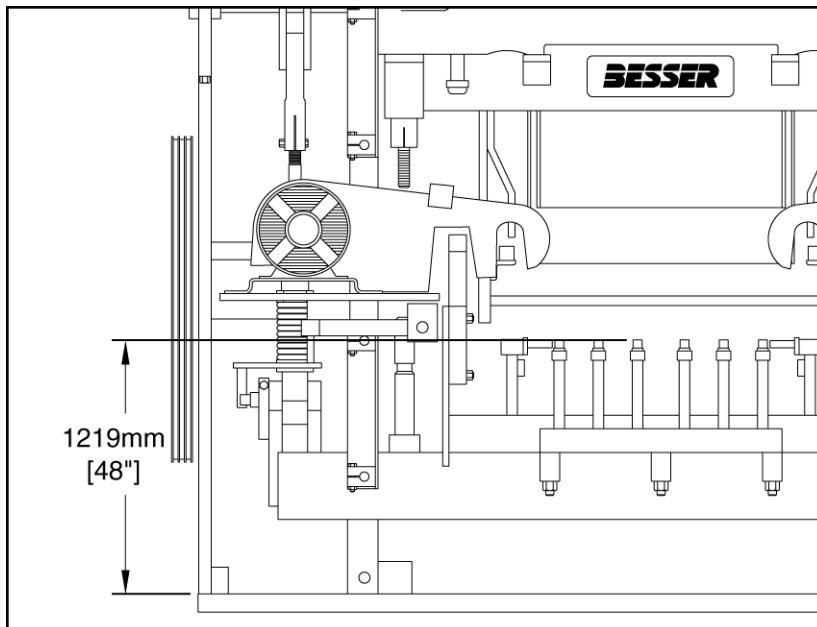
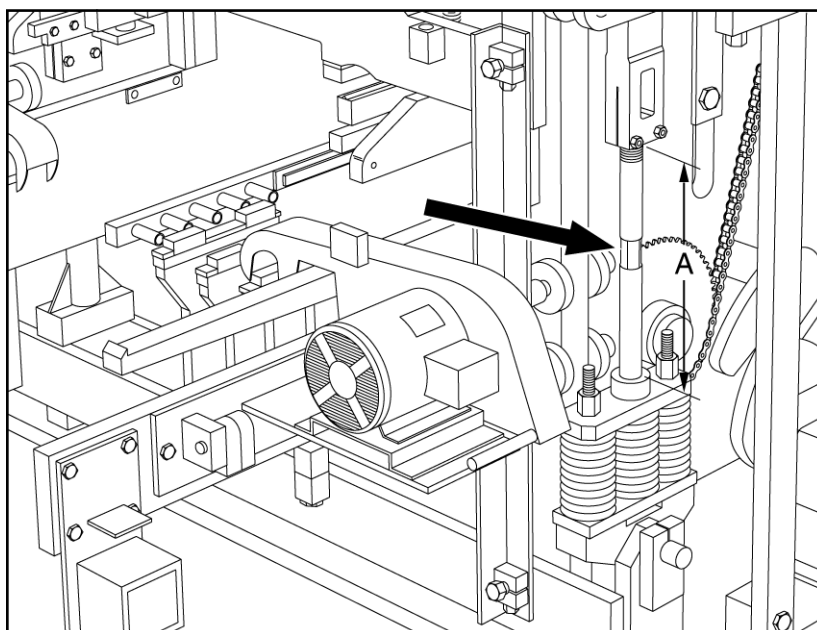

Figure 4.42 PALLET RECEIVER RUBBERS ABOVE BASE PLATE
Figure 4.43 LINK ROD
- 4.3.5 Run machine to "first stop" and adjust the pallet receiver links to obtain a dimension of **1219mm [48"]** from the top of the base plate to the tops of the pallet receiver rubbers (see figure 4.42). This adjustment should expose approximately **600mm [23 5/8"]** of link rod between the upper link end and the boss on the spring assembly (see dimension "A" on figure 4.43).